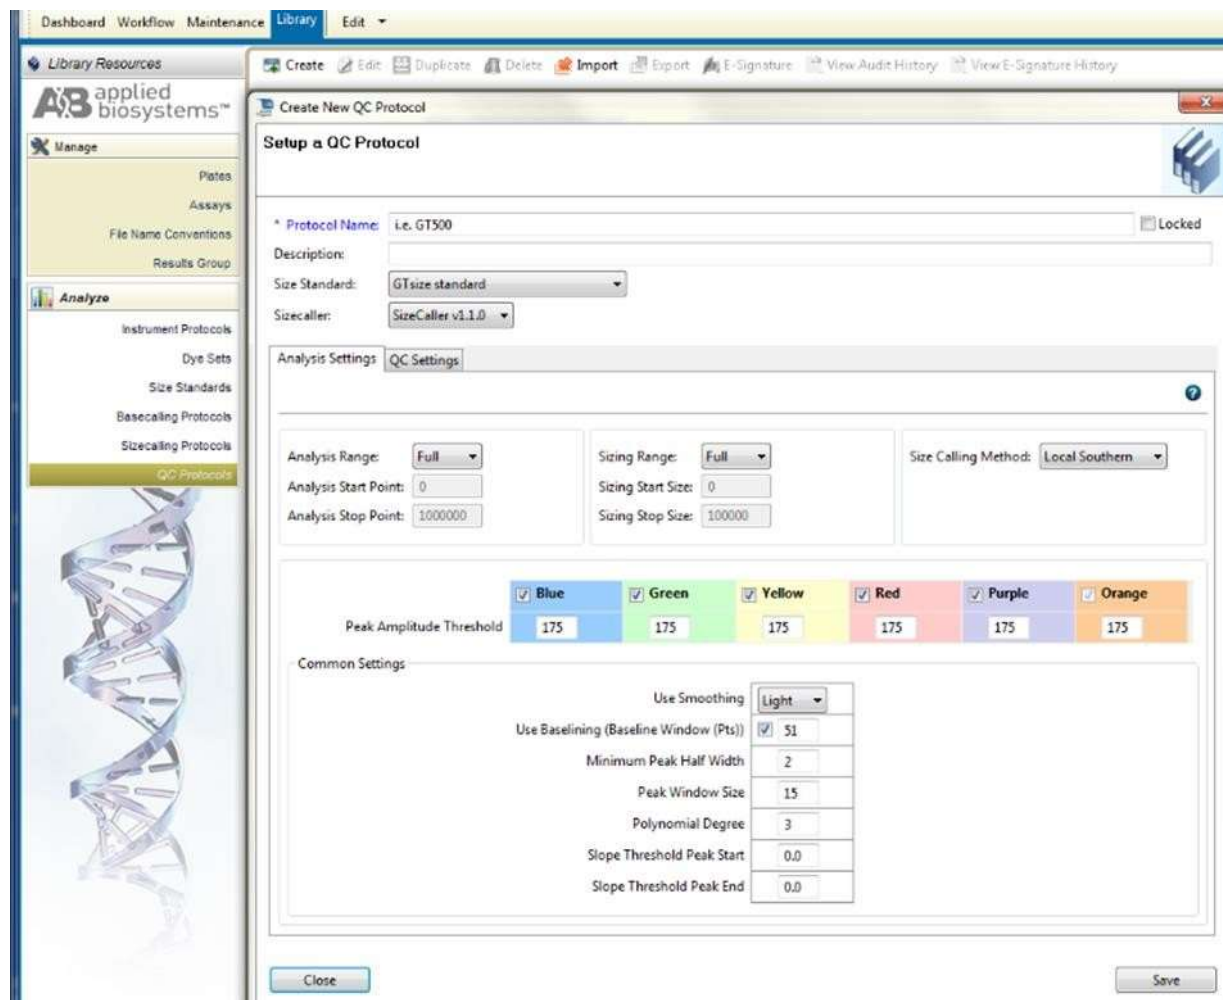

Figure 7. Screenshot for the “Create New QC Protocol” window on Applied Biosystems 3500 Data Collection software
- c) Select “Create” (Figure 7)
Users can select settings as shown in the Figure 7 or alternatively may define these settings based on internal validation condition for GT AZFScreen Plus v2 on the Applied Biosystems® 3500/3500xL Genetic Analyzer.